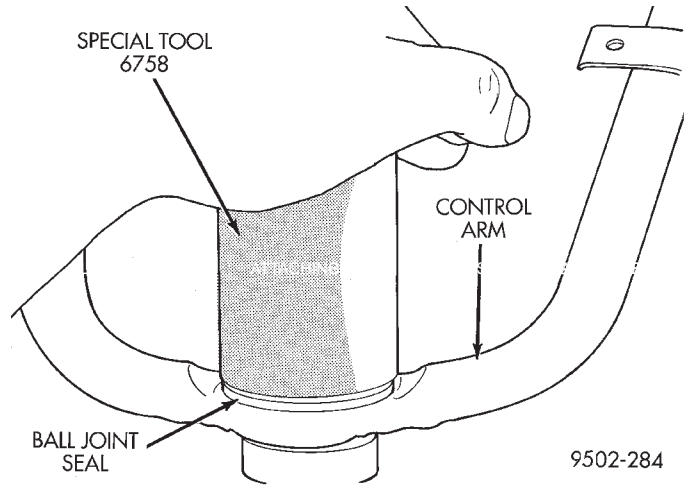

Fig. 33 Ball Joint Seal Boot Installation
(5) Position Receiving Cup, Special Tool 6758 over sealing boot so it is aligned properly with bottom edge of sealing boot (Fig. 33). Apply pressure **BY HAND** to special tool 6758, until sealing boot is pressed squarely against surface of control arm.